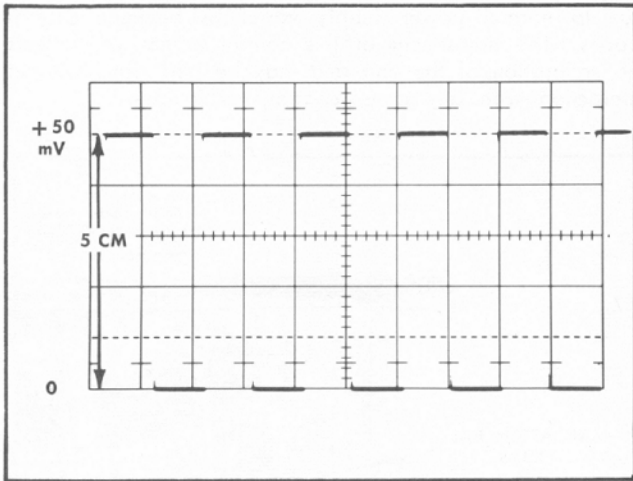

Fig. 2-3. Displaying a 50-mv 1-kHz calibrator signal. Vertical deflection factor: 10 mV/cm; sweep rate: 0.5 msec/cm.
9. Set the +INPUT AC-GND-DC coupling switch to DC. The display should be square waves which are 5 cm in amplitude (see Fig. 2-3). This is an example of dc-coupled single-ended operation. The calibrator waveform is positive-going 50 mV from the reference established in step 7.
- b. Adjust the GAIN control so the display is exactly 5 cm in amplitude (see Fig. 2-3). (If 20 mV is applied to the Type 1A7 as mentioned in Step 7 of the First-Time Operation procedure, then adjust the GAIN control so the display is exactly 2 cm in amplitude.)